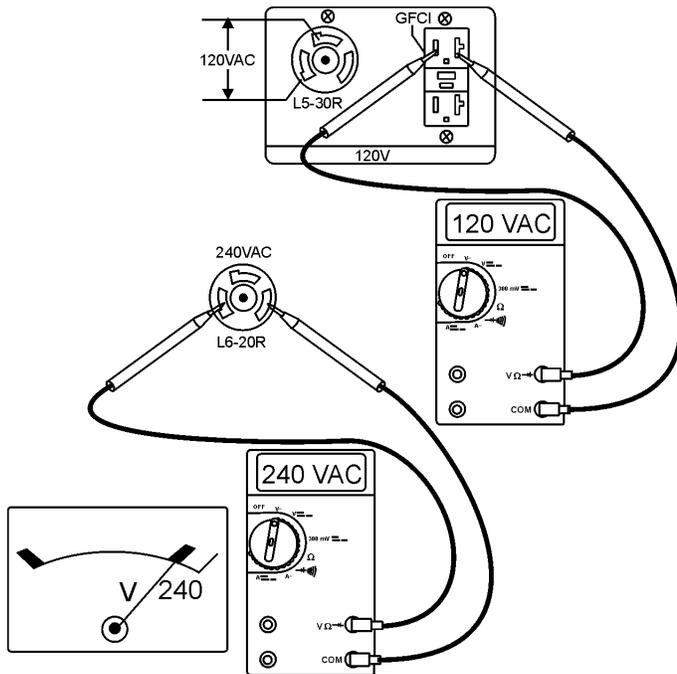

Figure 22. 60 Hz Output Receptacles
5. Read the **voltmeter** on the front panel of the generators (Figure 22) and verify that 240 VAC is present at the 240V twist-lock receptacle. Using an external voltmeter verify that 120V is present at the 120V twist-lock and GFCI duplex receptacles.